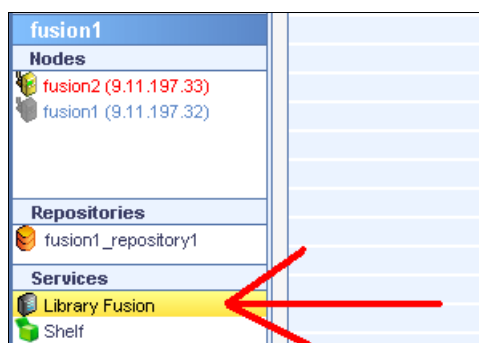

Figure 8-19 Select library
1. Select **Library xxx** on the left pane of the IBM ProtecTIER manager window (see Figure 8-19).